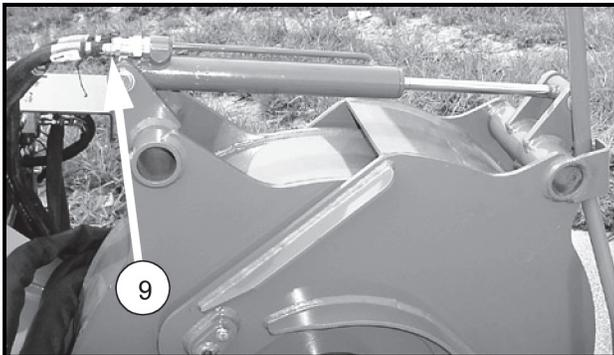

Figure 18.
1. **(HD Only)** Remove hoses from the cylinder (9) as shown in Figure 18. Install caps to the fittings of the cylinder and the hoses to prevent contamination and spillage.